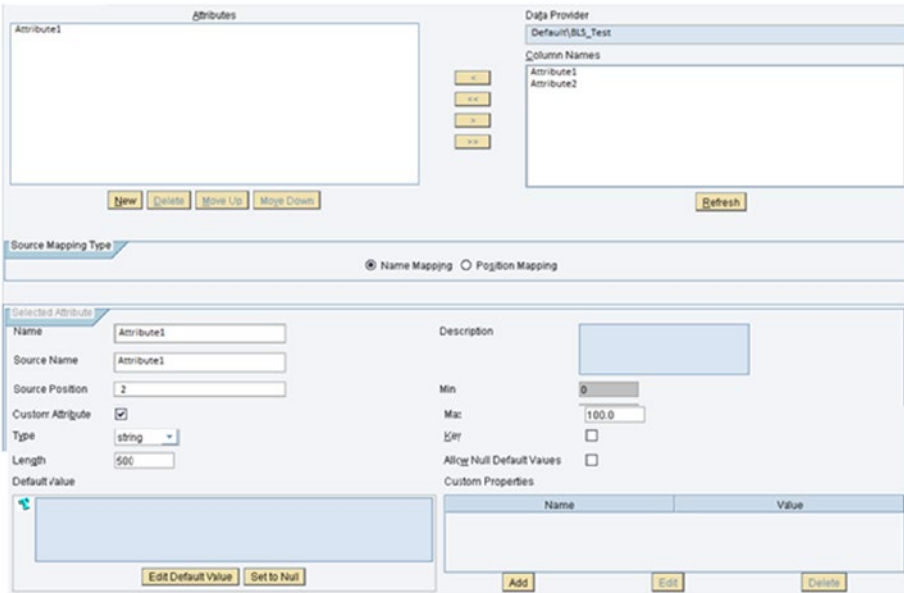

Figure 7-5. MDO Attribute Configuration screen
1. When you select the Attributes configuration, the screen in Figure 7-5 appears.